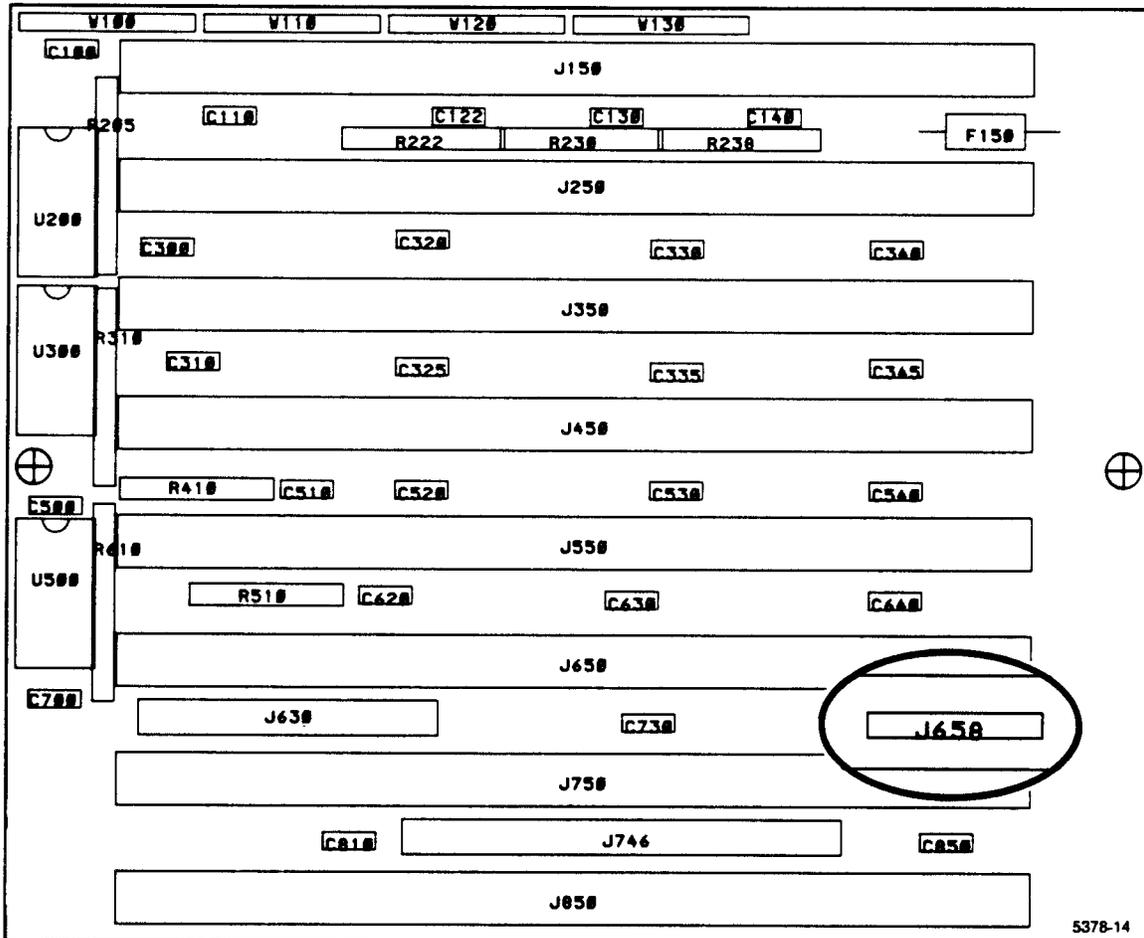

Figure 5-1. Expanded view of the Interface Board shows power supply measurement pins.
2. Locate the set of square pins labeled J658 on the Interface Board (Figure 5-1). This set of supply pins should be used as the reference point for all power supply measurements.